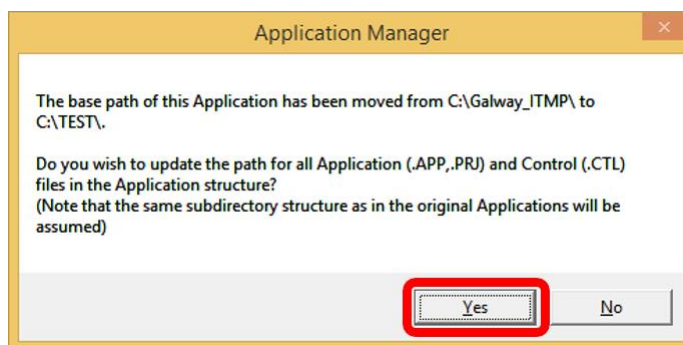

Figure 6.2 Cube prompt to update links
- 2) Open Cube and allow it to update all file paths. (Figure 6.2)